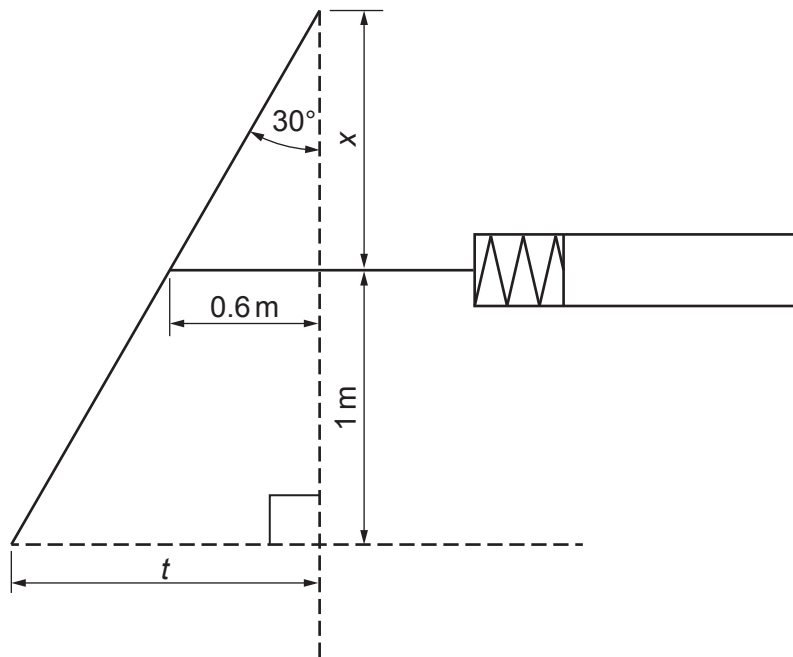

Fig. 4.4
- (d) Use **Fig. 4.4** to calculate the length of the throw of the paddle t in m to **2** decimal places. Show your working.